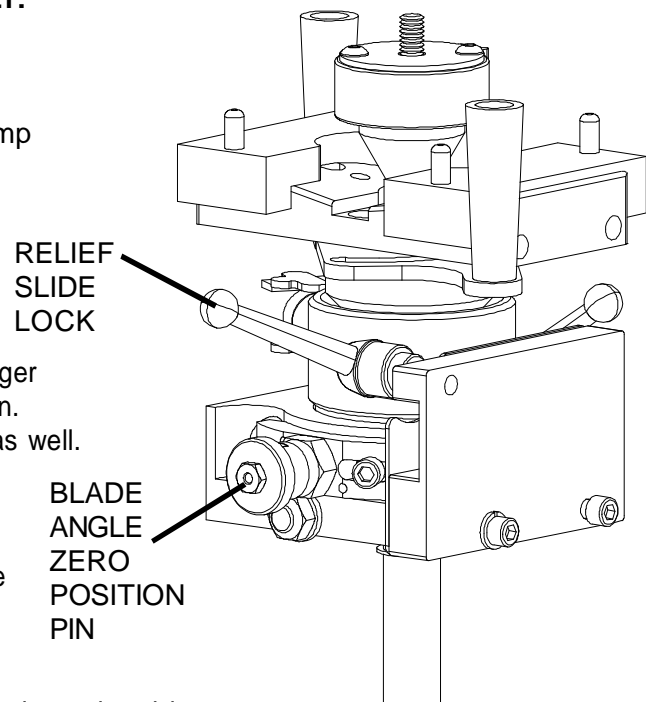
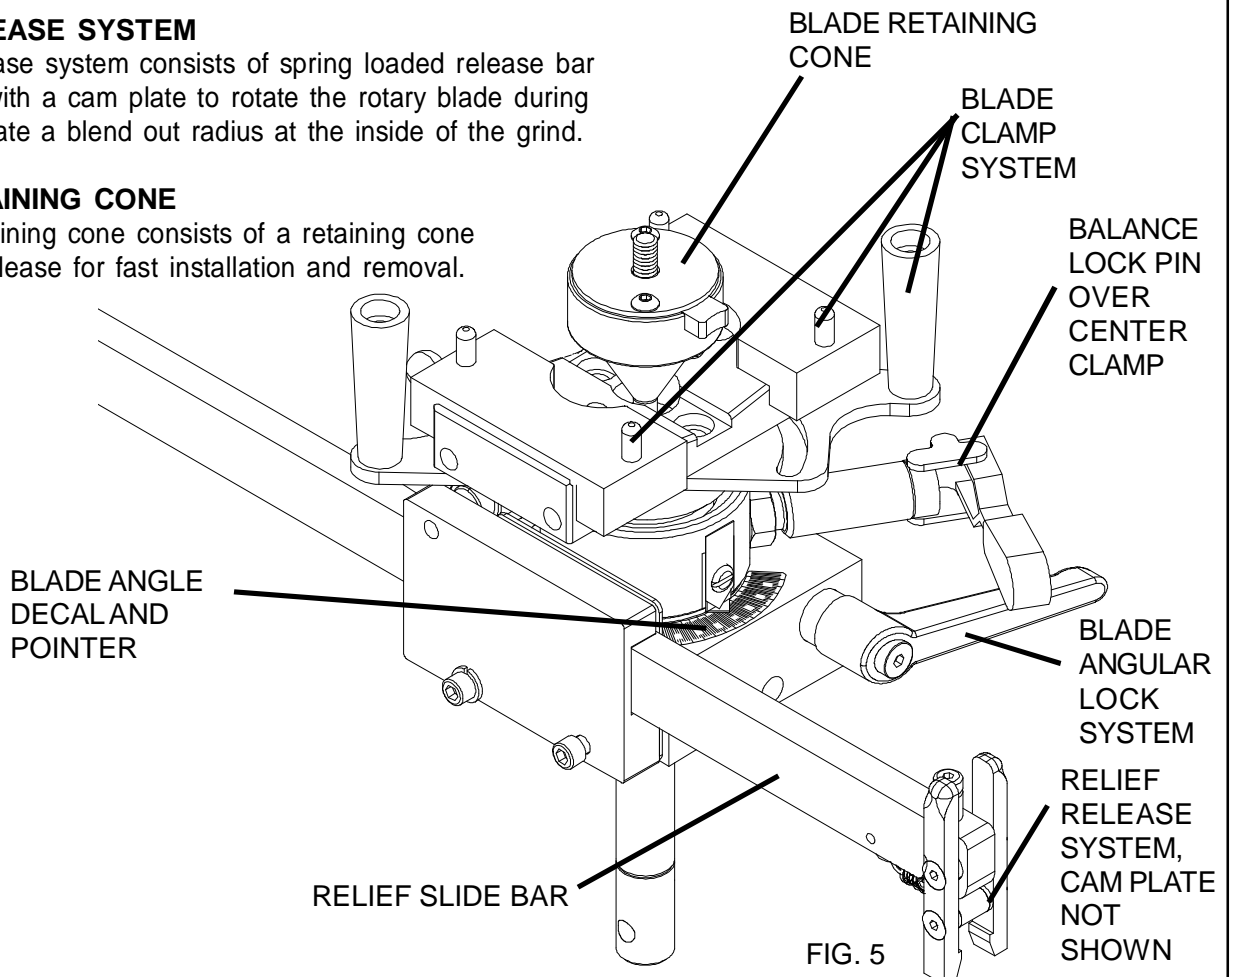

FIG. 4
FIG. 5
See FIG. 4 and FIG. 5
1. Remove the relief slide bar. See FIG. 5.